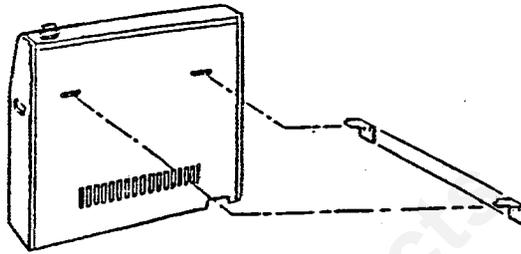

Figure 5
2. After mounting brackets are installed, hang heater on mounting brackets in holes provided at the rear of heater. (see Figure 5)